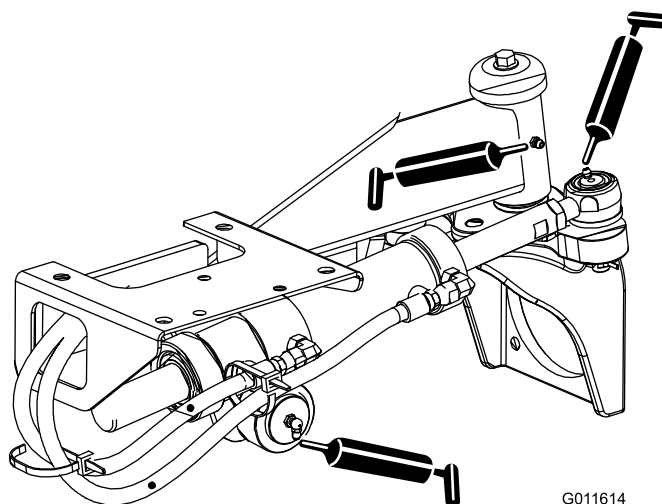

Figure 33
- Steering-cylinder ball joints (2) and rear axle (1) (Figure 33)